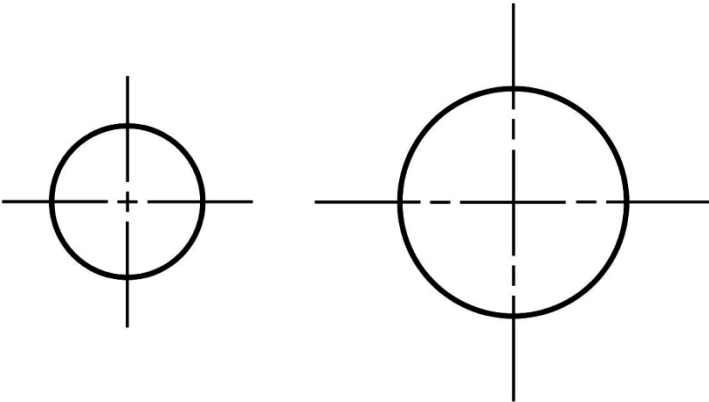

Figure 2.5-6: Crossing center lines.
- Rule 2. Center lines should intersect by crossing either the long dashes or the short dashes (see Figure 2.5-6).